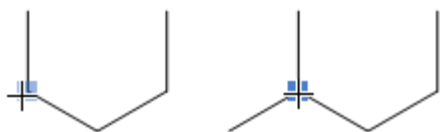

Figure 6.14 Adding a bond
- Point to an atom, as shown in Figure 6.14.